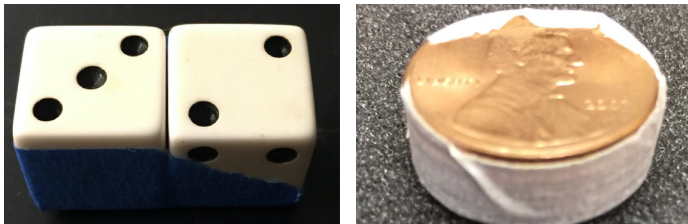

Figure 2 - Sensor base
1. Tape two dice or a stack of four pennies together to form a small platform for the sensor (see Figure 2).